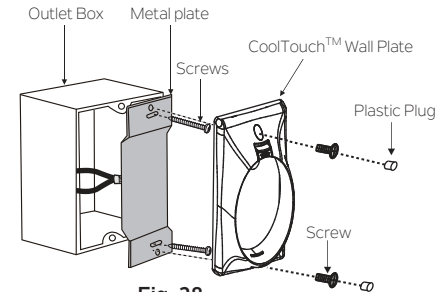

Fig. 28
Step 2. Install the metal plate and the CoolTouch™ wall plate to the existing wall outlet box with 2 screws provided. Insert the two plastic plugs into the wall plate. **(Fig.28)**